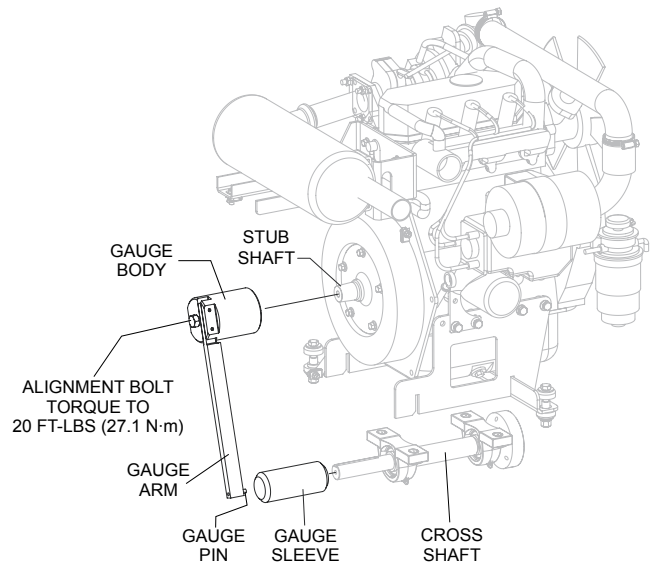
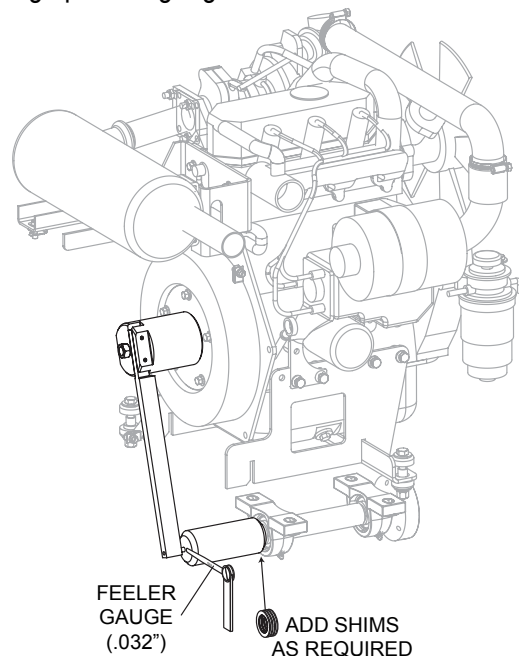
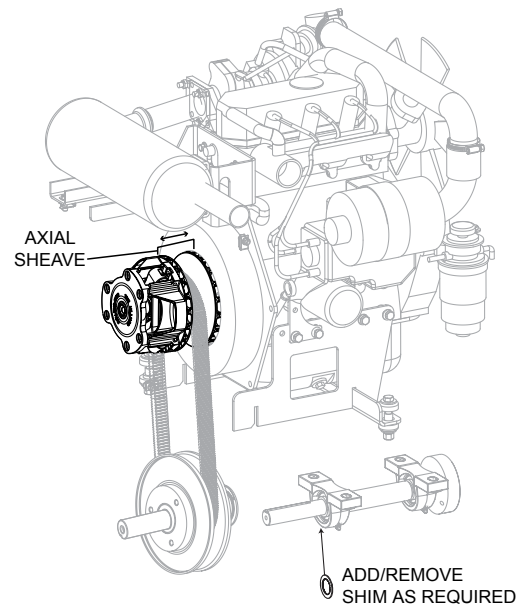

Figure 14. Cross Shaft Alignment
Figure 15. Shimming
Figure 23. Axial Sheave Movement
See Figure 14.
5. Reinstall gauge sleeve onto cross shaft. Insert .032" feeler gauge (Figure 15) between gauge pin and gauge sleeve.
3. Check for axial sheave movement (see Figure 23) in the drive clutch in one direction by pushing the upper sheave face **toward the engine**. You should notice slight movement of the sheave in the direction you are pushing.
- If axial sheave **will not move toward the engine**, remove a shim from next to the cross shaft bearing. If axial sheave **will not move away from the engine**, add a shim next to the cross shaft bearing. See Figure 23. Re-shim as required until axial movement is present in both directions. Refer to Figure 14 and Figure 15.